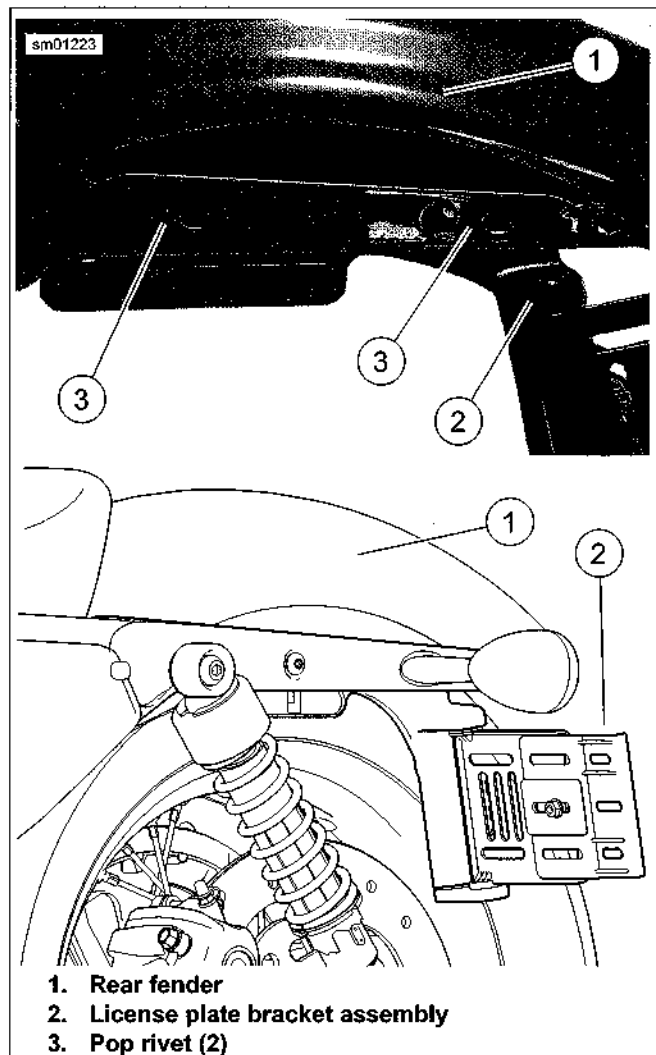

Figure 2-161. Removing/Installing License Plate Bracket Assembly (DOM)
- b. See Figure 2-161. Carefully drill out two pop rivets (3) securing license plate bracket assembly (2) to left side of fender.
- a. Install fender seat nut kit (8).
- a. See Figure 2-161. Position license plate bracket assembly (2) against inside of rear fender (1). Line up holes in bracket with holes in fender. Secure bracket to fender with two **new** pop rivets (3).